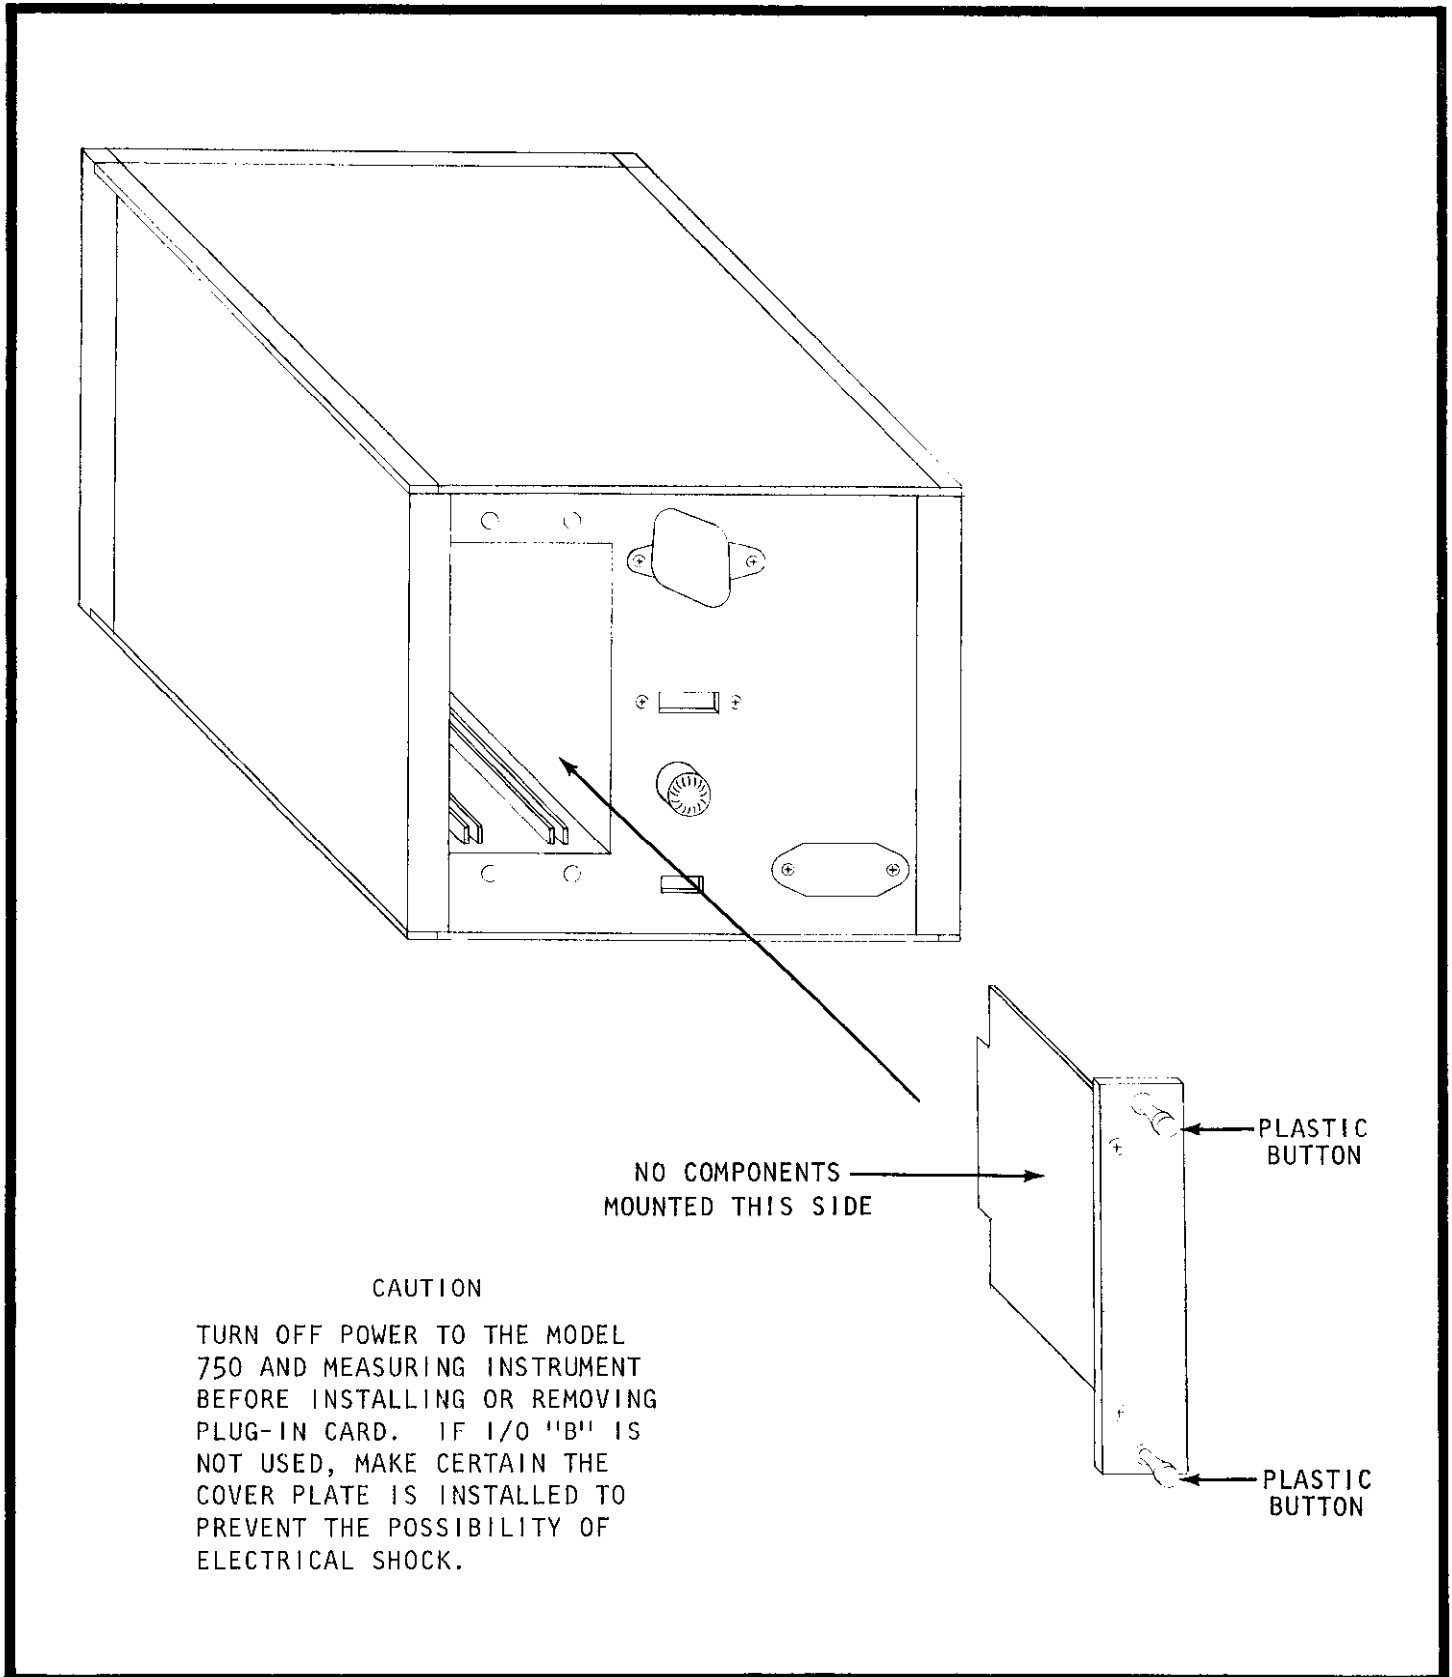

FIGURE 2. Installation of Accessory Plug-in Cards.
a. Model 7501 Printer Input Interface Cards. These cards have card-edge connectors which mate with I/O "A" receptacle on the Model 750 chassis. Before installing a card, remove the cover plate at I/O "A" by pulling the two plastic buttons. To install the card align the card-edge to mate with grooved tracks on the chassis as shown in Figure 2. The "component side" should face the users right hand when viewing the rear panel as illustrated. The two plastic buttons should be pulled out (unlocked). After the card is installed, lock the card in place by pushing in the buttons on the rear panel. The Model 7501 can not be inserted in I/O "B".
b. Models 7502, 7503, and 7504 Plug-In Cards. These cards have card-edge connectors which mate with I/O "B" receptacle on the Model 750 chassis. Before installing a card, remove the cover plate at I/O "B" by pulling the two plastic buttons. To install the card align the card-edge to mate with grooved tracks on the chassis as shown in Figure 2. The "component side" should face the users right hand when viewing the rear panel as